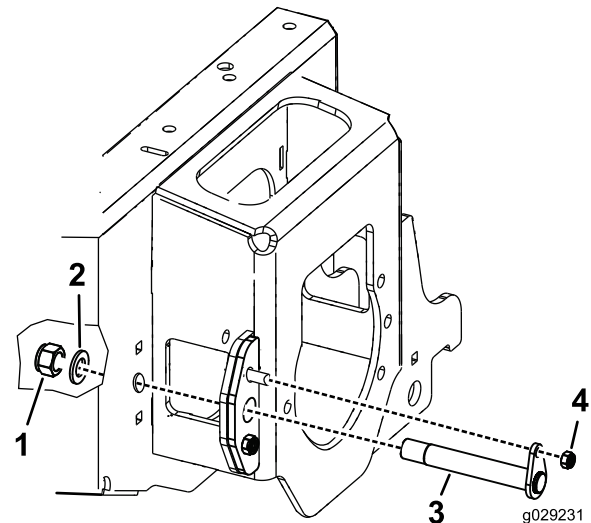

Figure 2
9. Install the arm pin from the outside of the machine through the wear plate and through the lift arm pivot bush (Figure 2).
10. Secure the pin to the inside of the chassis using the M24 nut and washer (Figure 2).